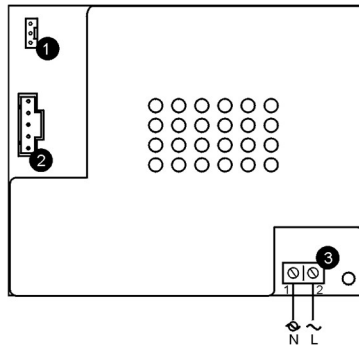
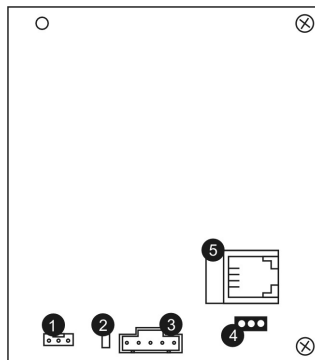
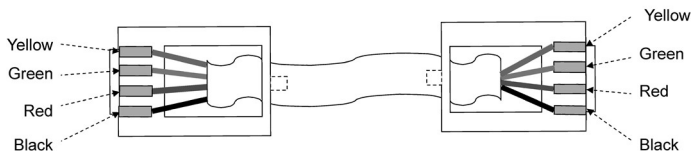

Figure 1.5: Home Automation Module (with internal PLI)
Figure 1.6: Home Automation Module (with external PLI)
Figure 1.7: RJ11 wiring diagram
The Home Automation module provides the system with an interface to the power-line network, enabling control over 16 home automation units employing the X10 protocol via an external or internal Power-line Interface (PLI), depending on your system configuration. If using the external PLI, connect it to the HA module as shown on figure 1.6, position 5, and figure 1.7, then plug it into power-line. For further information on the X10 protocol and the choice of options that are available in programming, *see Chapter Eleven: Home Automation Programming*. Figure 1.5 shows the HA module used in the systems with internal PLI.
Figure 1.6 shows the HA module used in the systems with external PLI.
-eJ For external X10 PLI, we recommend to use the two way TTL/CMOS interface such as XM10E module connected to the HA module with an RJ11 cable wired as shown on figure 1.7.